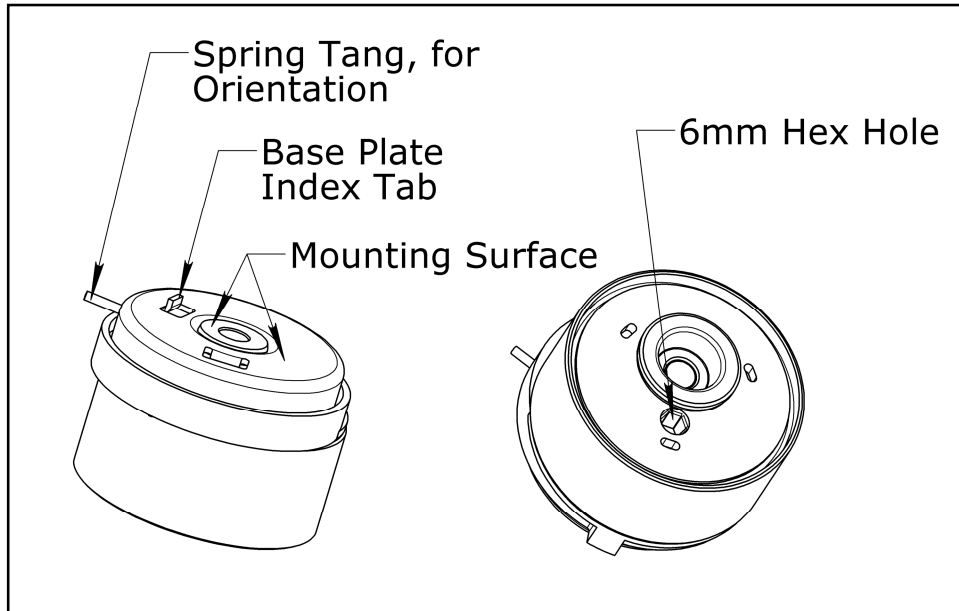
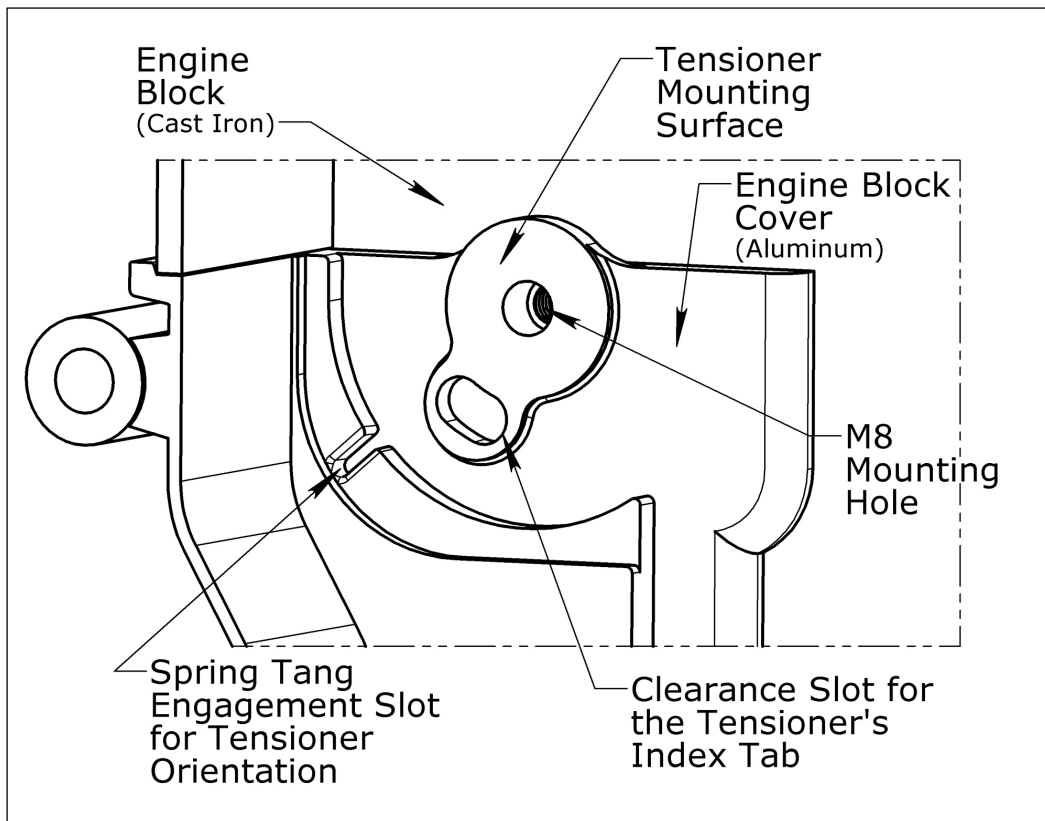

Figure 3: Tensioner shown as shipped
Figure 5: Tensioner Mounting Base
7. Install the new tensioner on the engine (Figs. 3 and 5), ensuring that the spring tang engages the slot on the engine block for correct tensioner orientation. The base plate index tab fits into the clearance slot on the engine mounting surface (Fig. 5) and the tensioner is seated on the mounting surface properly.